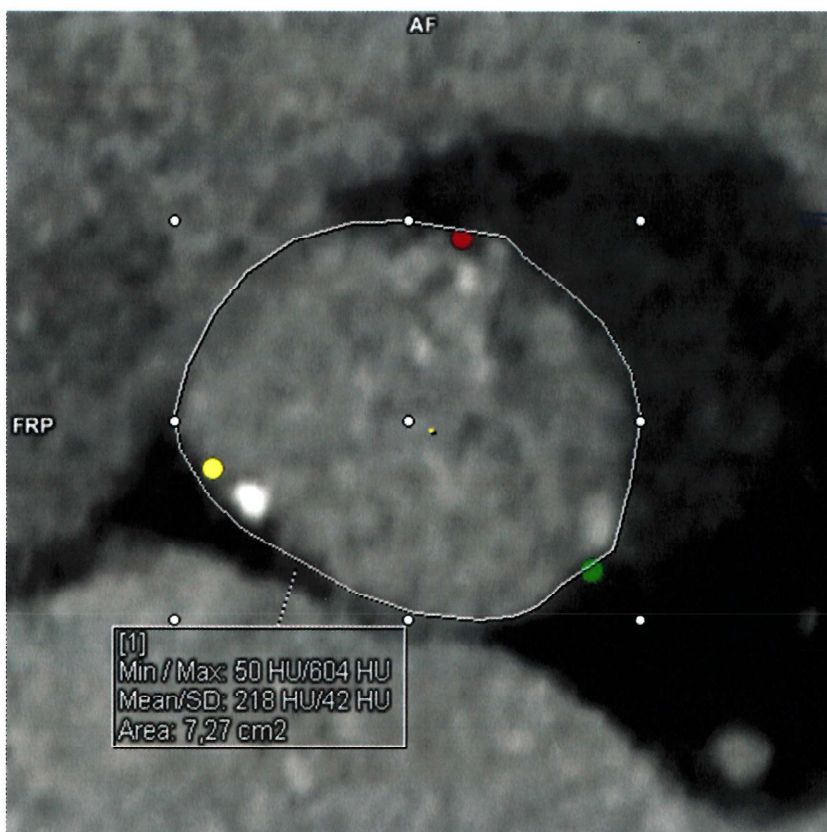

Fig. 2: MPR example for correct manual measurement using the function "ROI Polygonal Measurement"
**Workaround:** As shown in Fig. 2 any annular measurement shall be performed manually in the MPR segment showing the annulus plane instead. The ROI Polygonal and/or Distance Line tools can be used.